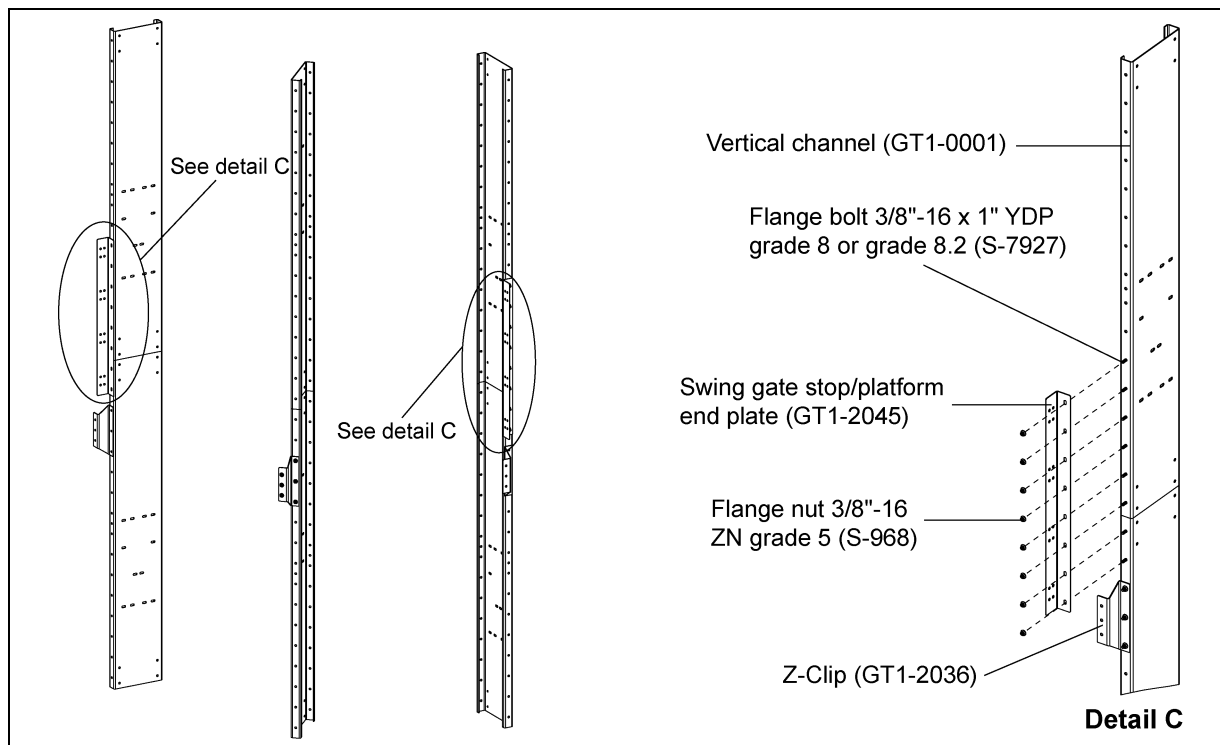
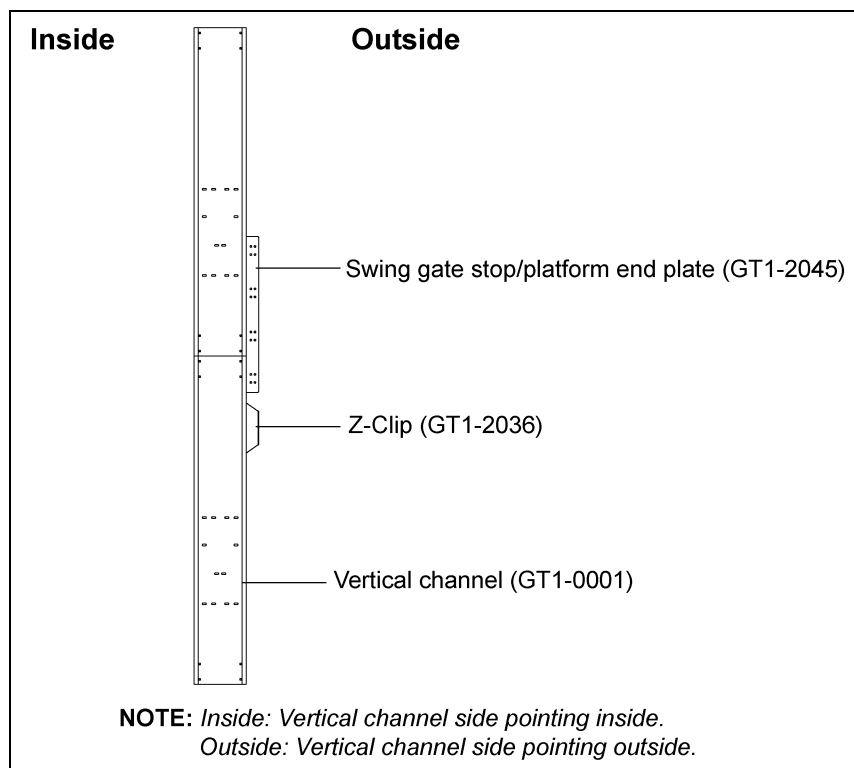

Figure 6E Offset Swing Gate Stop Installation
Figure 6F
1. Install swing gate stops (GT1-2045) to the safety gate opening vertical channel and catwalk end vertical channel on offset catwalk as wall sheets are installed using 3/8"-16 x 1" YDP grade 8 or grade 8.2 bolts (S-7927) and 3/8"-16 grade 5 nuts (S-968). (See Figure 6E and Figure 6F.)